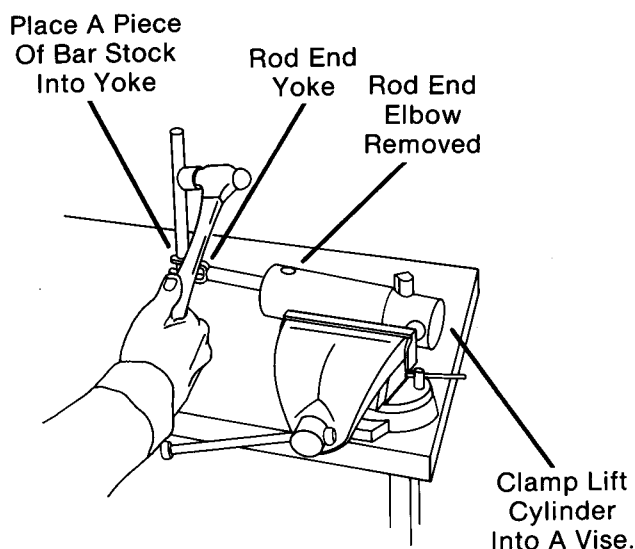

**FIG. 90**
- D. Remove cotter pin thru yoke end clevis pin and remove clevis pin. (Fig. 90)
- H. Remove rod end elbow swivel fitting from cylinder, which secures rod guide in cylinder. (Fig. 90)